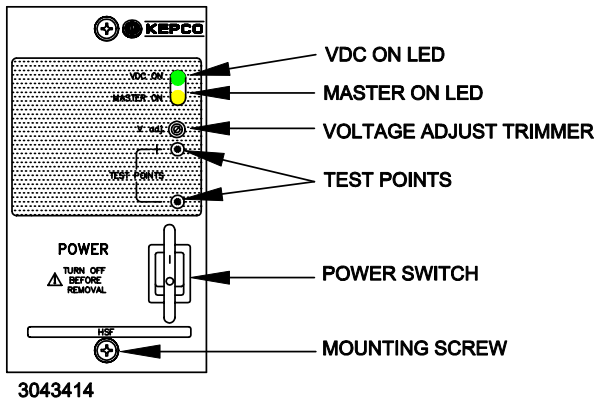

FIGURE 1. COMPONENT LOCATIONS
**MOUNTING THE POWER SUPPLY.** Refer to Figure 1 and insert HSF-PFC power supply into selected slot of RA 19-(X)B Rack adapter until power supply front panel is flush with rack adapter chassis and secure with front panel Phillips head mounting screw.
Turn the unit on using the front panel POWER switch (see Figure 1). **CAUTION: DO NOT repeatedly toggle the POWER on/off switch as this may cause unit to fault.**